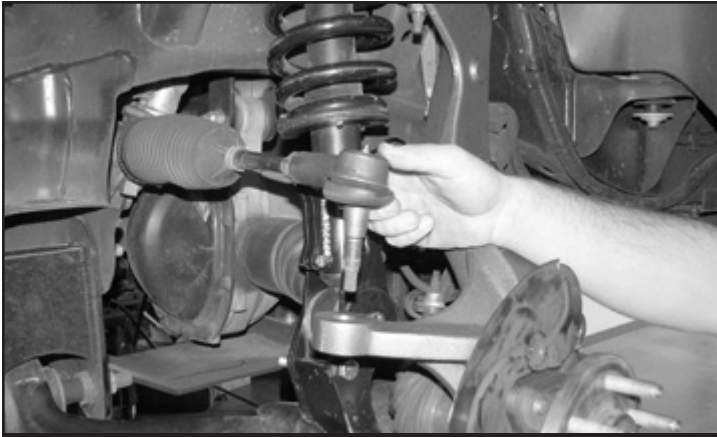

FIGURE 59 - STEP 60
60. Reconnect the tie rod end to the steering knuckle and torque to 60 ft-lbs. **SEE FIGURE 59**